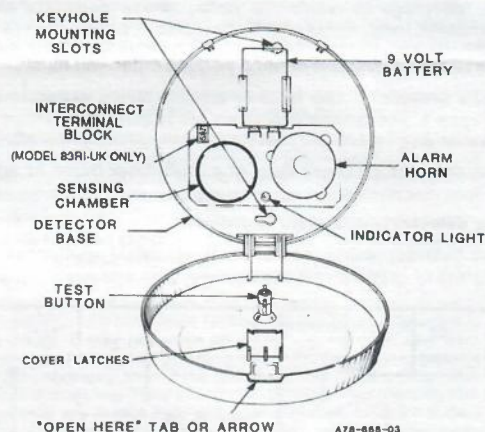

Figure 7: SMOKE DETECTOR WITH COVER OPEN
2. Put the detector base against the ceiling (or wall) where you want the detector to be. With a pencil, trace around the inside of two of the keyhole-shaped slots used for mounting, as shown in Figure 7.
Connect the detectors together by connecting all the terminals marked #1 on the interconnect terminal block together, and all the terminals marked #2 on the interconnect terminal block together. Wires inserted into the terminal block should have 5-8mm of insulation stripped off. (See Figures 7 and 8.) Use 1.0mm2 or larger two-conductor cable which is available at any ironmonger or home centre.